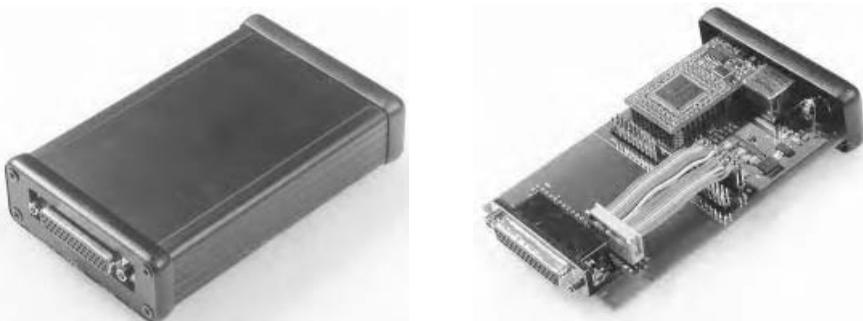

Figure 29.3 The Gluion.
artist Jens Brand, and software/hardware hybrid instruments for Richard Barrett (UK/Germany), Annette Begerow (Germany), Steve Coleman (USA), Axel Dörner (Germany), Walter Fabeck (UK), Sabine Schaefer (Germany). In 2004 he designed the "Gluion," a general purpose, configurable interface between sensors and computers (see figure 29.3).
The I-Cube from Infusion Systems and Eric Singer’s MidiTron are less expensive, computer-configurable, sensor-to-MIDI interfaces that can control MIDI devices directly or can connect to a computer for further processing of the raw sensor data. CH Products manufactures an inexpensive joystick development circuit board that lets you read thirty-two switches and ten analog channels through your USB port (see figure 29.2). Sukandar Kartadinata’s “Glunion” is a high-speed Ethernet interface that can be configured for a wide range of sensors (see figure 29.3). Similar systems are available from a number of other sources. Prices range from under one hundred dollars to several thousand dollars. Some of these interfaces are bi-directional, allowing you to send control information through them to external relays, motors, etc., as well as receive data from various sensors.